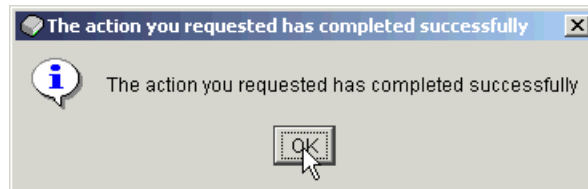

Figure 18-17 Disks added successfully to Disk Pool
- When complete, click **OK** on the information panel shown in Figure 18-17.